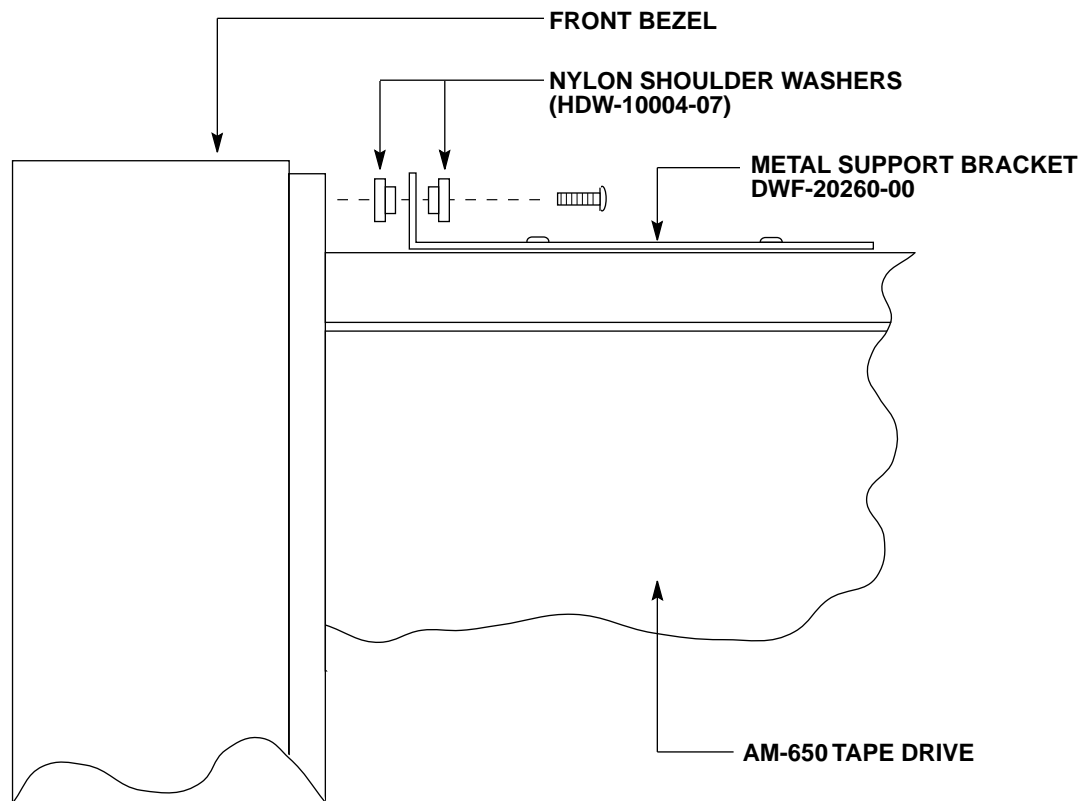

Figure 6 - Attaching to Front Bezel
6. Because the tape drive internally ties logic ground to its frame, you need to isolate the tape drive from the computer chassis. Use the two nylon shoulder washers (part number HDW-10004-07) to ensure that the metal support bracket does not touch the conductive coating on the front bezel. Please refer to Figure 6 for correct installation of the shoulder washers.